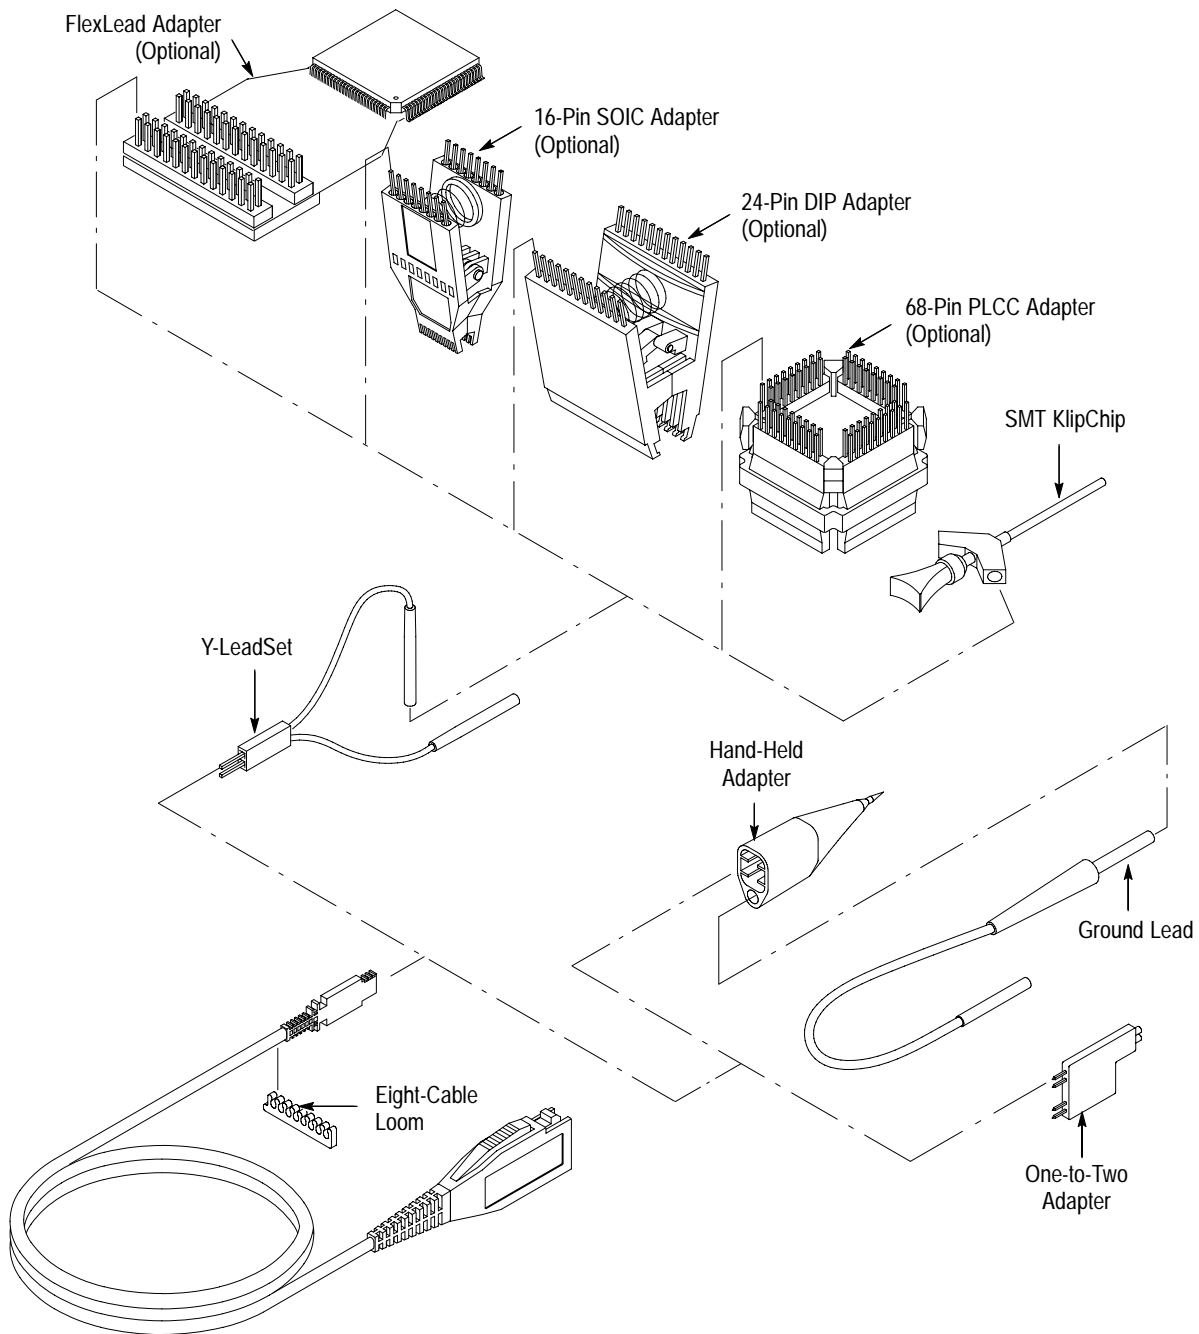

Figure 3-48: Installing Accessories — Standard and Optional
- To see what each accessory looks like and how it fits to the P6240 probe, examine Figure 3-48.